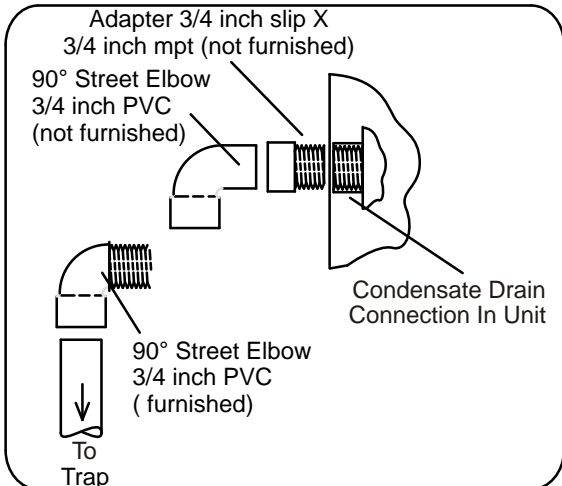

**FIGURE 53**
*Horizontal furnace (figure 53)* - In horizontal furnace applications the field provided vent must be a minimum 4" to a maximum 5" length above the condensate drain outlet connection. Any length above 5" may result in a flooded heat exchanger if the combined primary drain line were to become restricted.